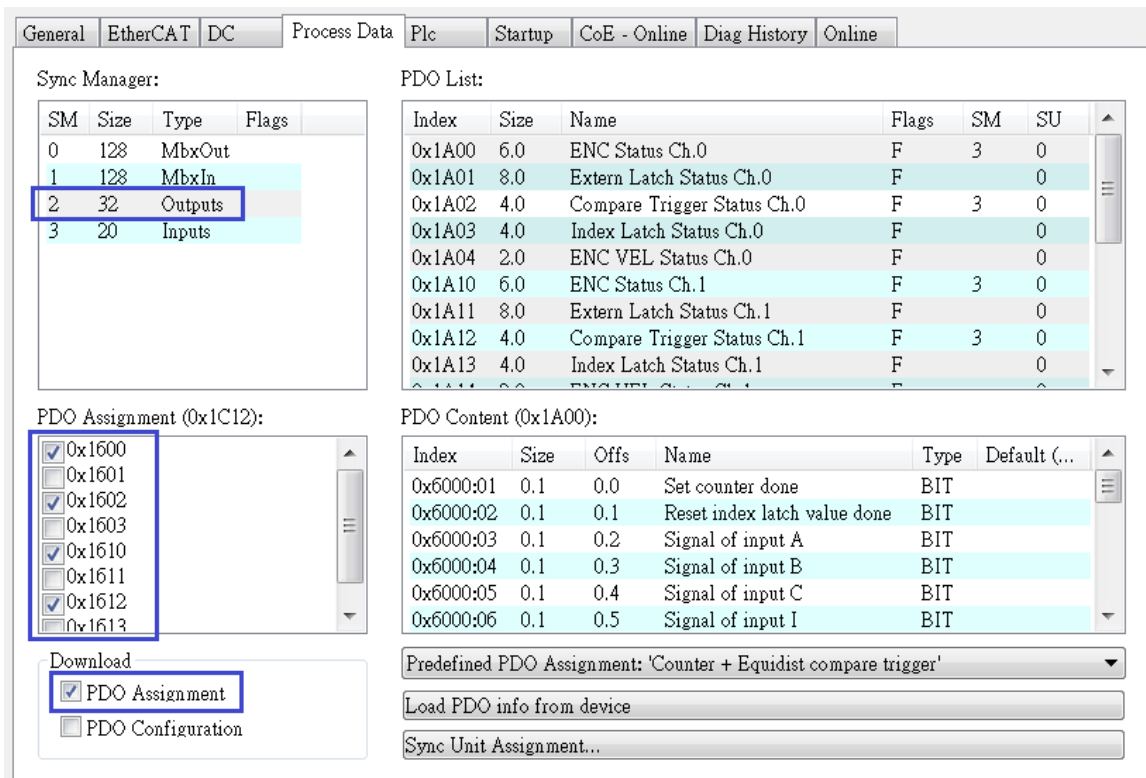

Figure 24: Predefined PDO assignment selection
2. For RxPDO selection: click in the "Sync Manager" window the "Outputs" line and in the "PDO Assignment (0x1C12)" window select for each encoder channel the required RxPDO (see Figure 24). If the variables listed in the RxPDO are not required for the application then deselect the PDO in order to reduce the process data image size.